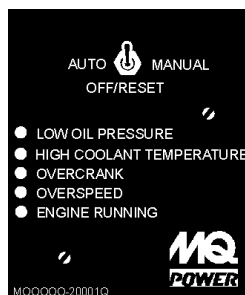

Figure 53. MPEC Engine Running Status LED (OFF)
5. Verify that the "Engine Running" status LED (Figure 53) on the Microprocessor Engine Control Module (MPEC) display is "OFF" (not lit).